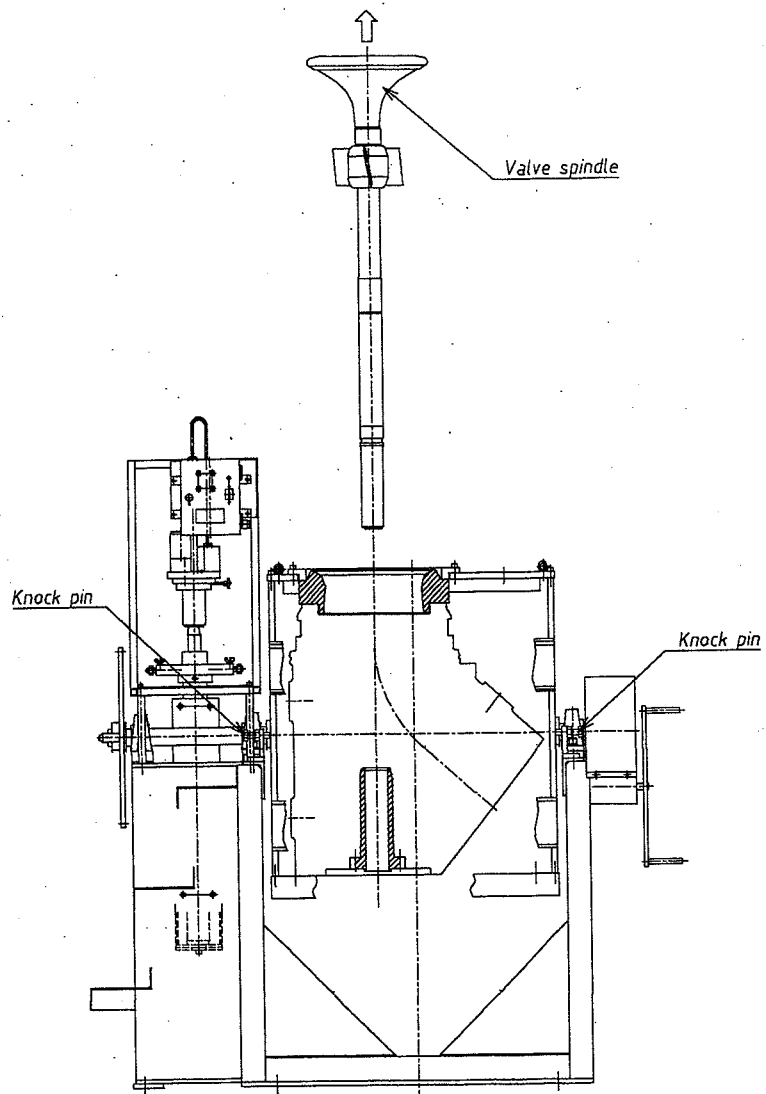

Fig.3
11. Pull out the valve spindle. (See Fig.3)
12. Take off the cover (B) and the attachment.